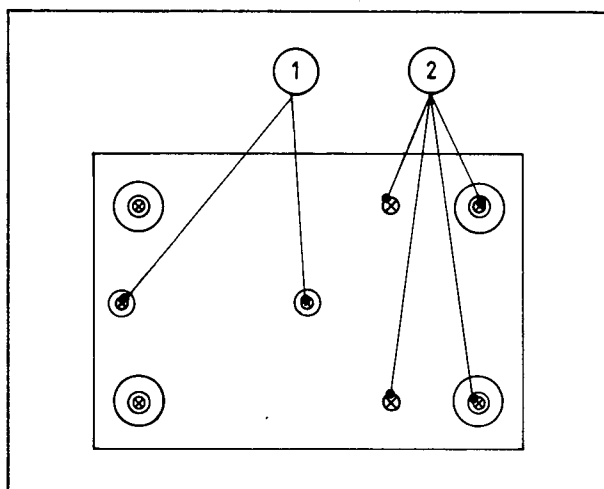

Fig 3.33 AC Adaptor Base View
- (1) Remove the two screws ① (Fig 3.33) from the base of the adaptor
- (2) Lift the PCB support assembly clear of the adaptor body, taking care as the POWER switch, AC ADAPTOR light and DC OUTPUT socket are withdrawn from the front of the adaptor
- (3) Remove the four screws ② (Fig 3.33)
- (4) Lift the transformer clear